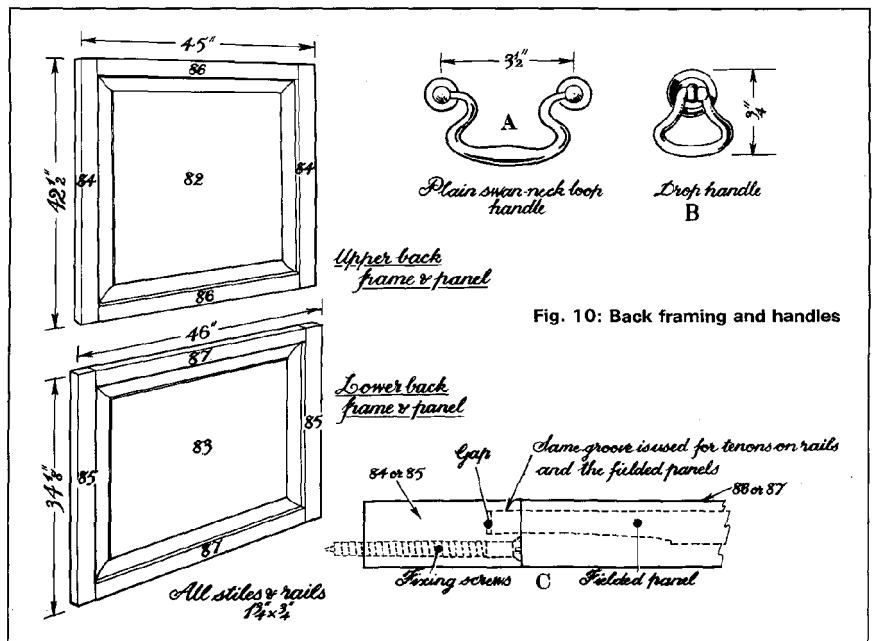

Fig. 10: Back framing and handles
The front and back drawer rails (12) are tenoned into the main carcass ends (7), as are the top separation rails 15 and 38 (visible in figure 4, overleaf). Muntins (14), drawer bearers (13) and a central bearer (16) connect these four rails. The two upper drawers are supported by this conventional framing, while the lower single drawers run on bearers (30) glued to the cabinet ends. This ignores wood movement, but the bearers are still secure. The drawer construction is orthodox, with lapped dovetails on the fronts and through dovetails on the backs. The bottoms are solid wood, grooved into the sides and fronts without being glued in, so that they can expand and contract. You could, of course, use plywood for the bottoms instead. The handles on the drawers are solid brass and match those on the fall front; they are shown at A in figure 10.
within a fall-front drawer, shown at right and at the bottom of the previous page, that pulls out to provide knee room for writing. The fall front (42) is made up of two pieces face-glued together to form a lip that fits into a notch cut into the side (43) when the fall is down (see B and D). The fall has three hinges, and is fitted with two brass handles, shown at A in figure 10. Two mahogany lippings (47 & 48) mask the drawer front's top edge and the exposed pine edge of the drawer top.
The carcase top (77) laps over the back framing (shown in figure 10), and it also laps over the bookcase ends (70) and the cornice (75). In the original, it is screwed down all around, which does not allow for wood movement.
Figure 10: Back framing and handles. Chances are that the framed panels in this piece were screwed into place, not glued. This would have allowed their removal, considerably lightening the piece if it had to be moved. It was difficult to see how the back frame was constructed, so I am giving details of typical framings that you can use. Those on the original were of solid oak, although you may wish to use pine. In any case, the frames are made up with conventional mortise and tenon joints. The filed panels (82 & 83) are